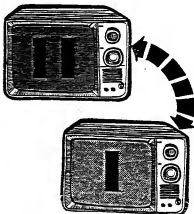

Figure 2-4. Audio Tones Test Screens
- **Format:** The VCS unit should be in the initialized mode. Move the Right Difficulty switch to the "B" position. The test displays two alternating patterns on the screen (as shown in Figure 2-4) while two alternating tones are heard. The tones change in sync with the screen. This test pattern continues for one full cycle after the Right Difficulty switch has been returned to the initialized position.